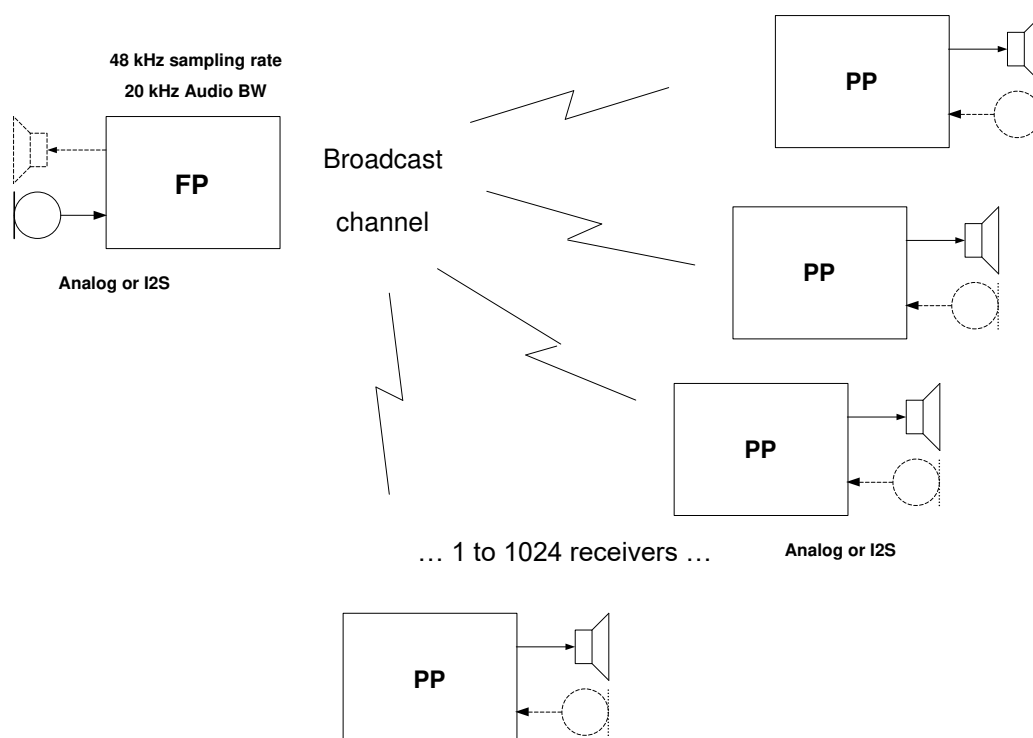

Figure 4: Tour Guide System
Figure 4 shows the high level block diagram of the Tour Guide system where FP is broadcasting audio up to 1024 PPs. Audio is encoded and transmitted by FP with a CELT codec. The following connections are possible in this setup, which are fully under the control of the user application:
- "question call" is a wideband voice connection (G.722 codec) that one of the PPs uses to talk to FP after the voice connection is established (components marked by a dashed line in Figure 4 are needed). The conversation between FP & PP is broadcasted to all other PPs unless FP mutes the broadcasted audio to keep the conversation private. A small amount of data can be exchanged between FP & PP with the use of this connection.